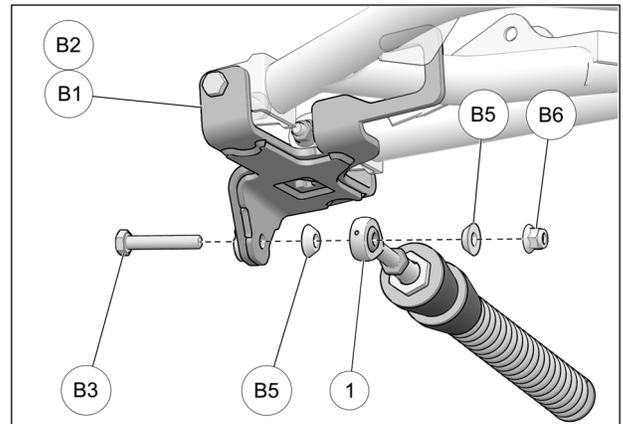

Fig. 10
10. Attach stabilizing rod (1) to anchor bracket (B1-B2), using bolt (B3), taper spacer bushings (B5), and nut (B6). Torque to $70 \text{ N}\cdot\text{m}$ [$52 \text{ lb}\cdot\text{ft}$]. See Fig. 10